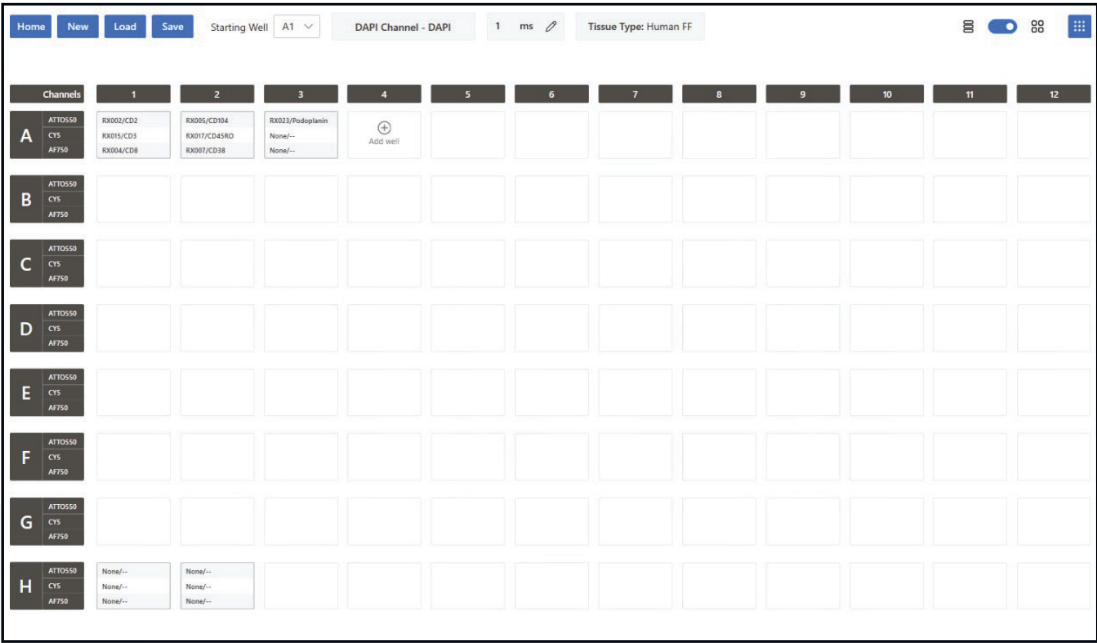

Figure 4.19. Experiment Designer Screen – Well Plate Mode to use in reporter plate preparation.
7. Select Well Plate Mode to view the well plate layout using the toggle button. The layout displays the reporters (RX-xxx) corresponding to each well (See Figure 4.19.). This layout will be used in Chapter 5: Preparing PhenoCycler Reporter Plate to prepare the reporter plate.